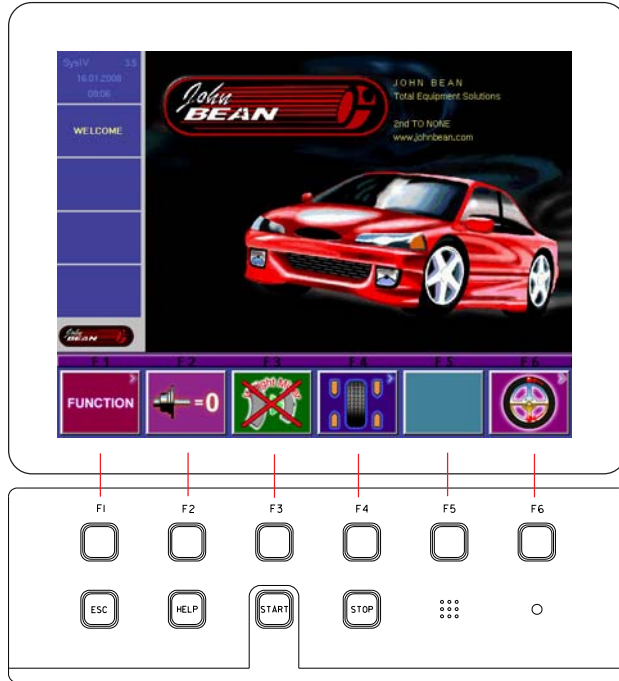

Figure 14
- Keys without a symbol in the upper right-hand corner or at the edge initiate an action immediately, such as F2 on the main screen means to perform a compensation process. See Figure 14.